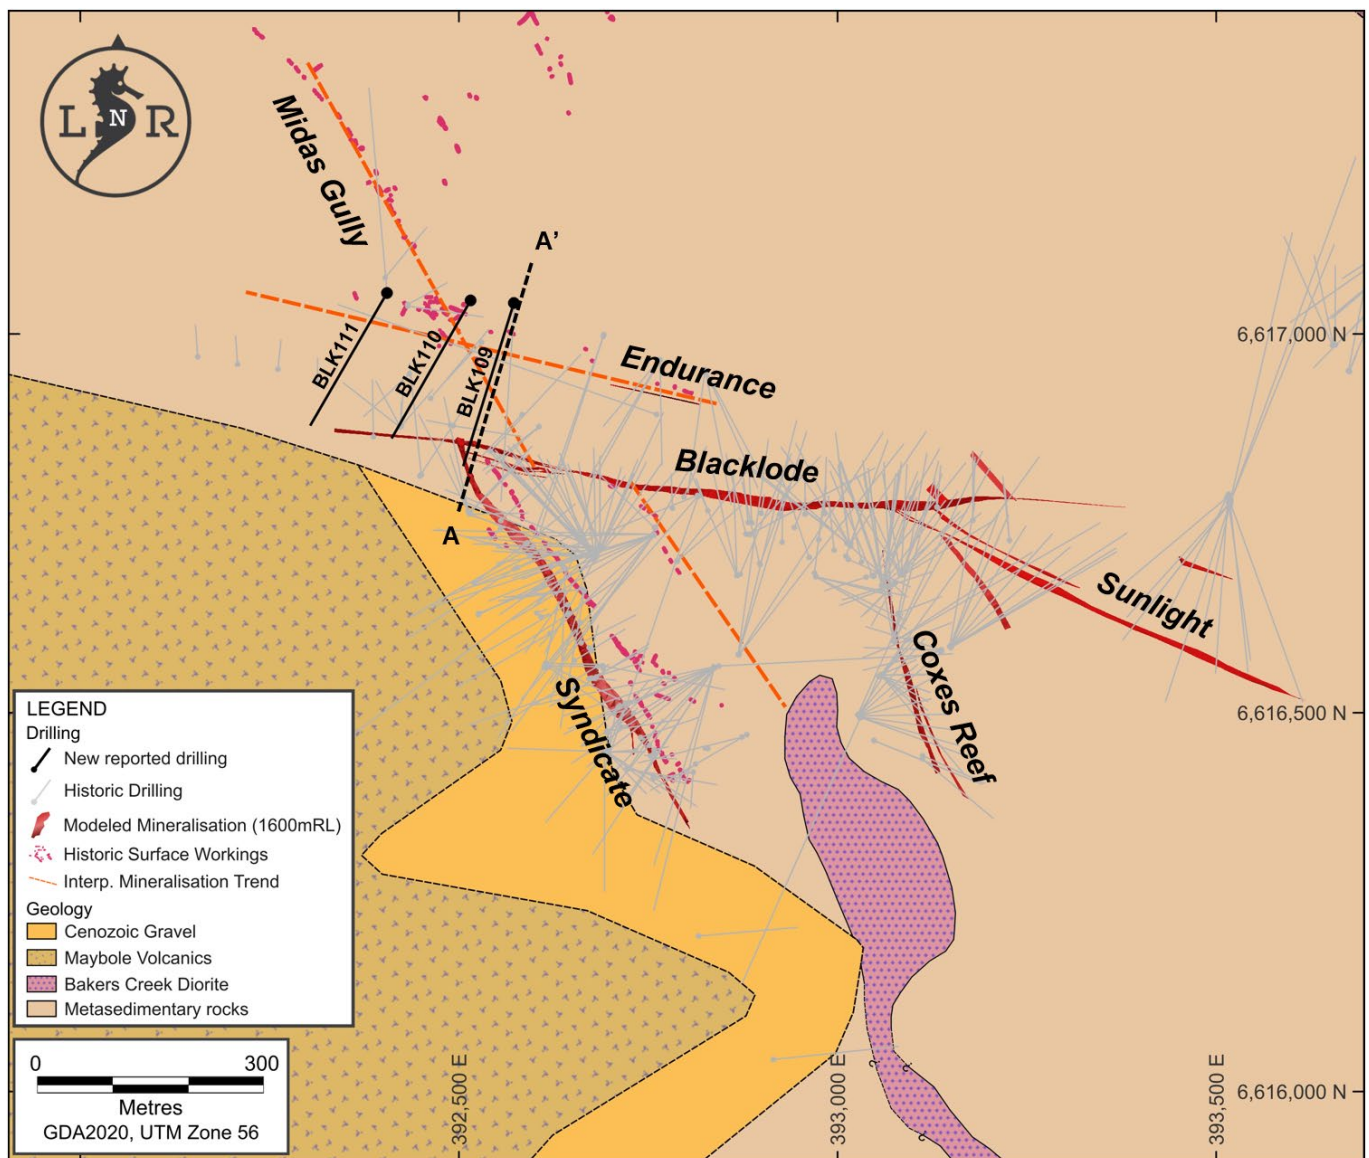

Figure 2 Blacklode diamond drill hole location plan with named mineral systems
- Drill test the zone where the Blacklode and Endurance mineralised structures converge with the Syndicate and Midas Gully splays (Figure 2).
Drill holes BLK109, BLK110 and BLK111 were positioned in the footwall of the largely untested Endurance lode (Figures 2 and 3) and drilled southwards into the Blacklode and Syndicate systems. All three holes intersected multiple high-grade antimony-gold (Sb-Au) lodes, providing further confidence in the continuity of known mineralisation within the Metz system.